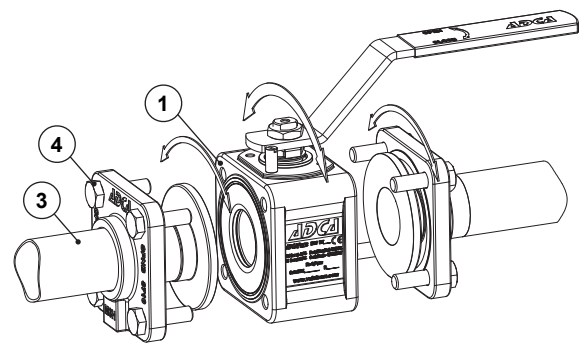

Fig. 2: Tube weld ends with loose flanges.
- b. Remove the body bolts (19) and separate the valve body assembly from the flanges (4) and tube weld connection ends (3).
- d. Fit the tube weld connection ends (3) with the flanges (4) into the pipeline after protecting the end faces from splatters and proceed with the welding procedure. Note that the flanges don't need to be aligned since they can later rotate freely to meet the required valve position. - see Fig. 2.
- f. Fit the valve body assembly between the connection ends (3), join the flanges (4) with the valve body (1) and loosely tighten the body bolts (19) in place.
- h. Gradually tighten the body bolts (19) in a crisscross pattern until the recommended torques are achieved – see section 9.5 – Tightening torques.